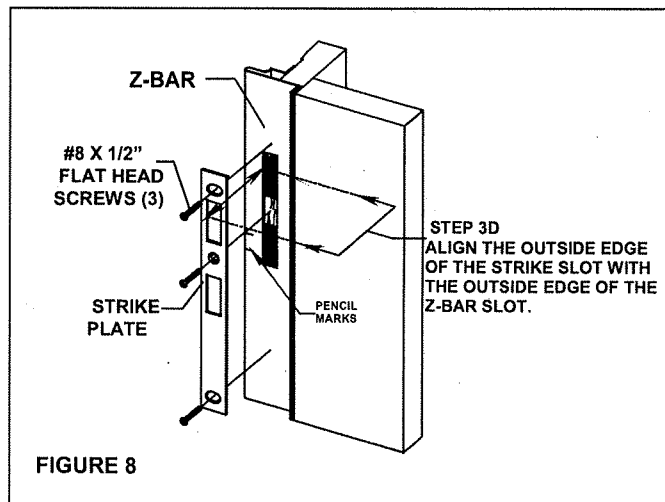

FIGURE 8
Carefully position the remaining spring latch to expander and the strike plate (lip to the outside) to sill (Figure 8). Once proper location has been determined so that the door is aligned within the frame, secure with enclosed screws. May have to be shimmed. Shims are in spring latch bag.
C. Position the strike plate on the latch side z-bar. Align the strike vertically by centering the bottom hole in the strike plate with the marks previously made on the z-bar. See Fig. 8.